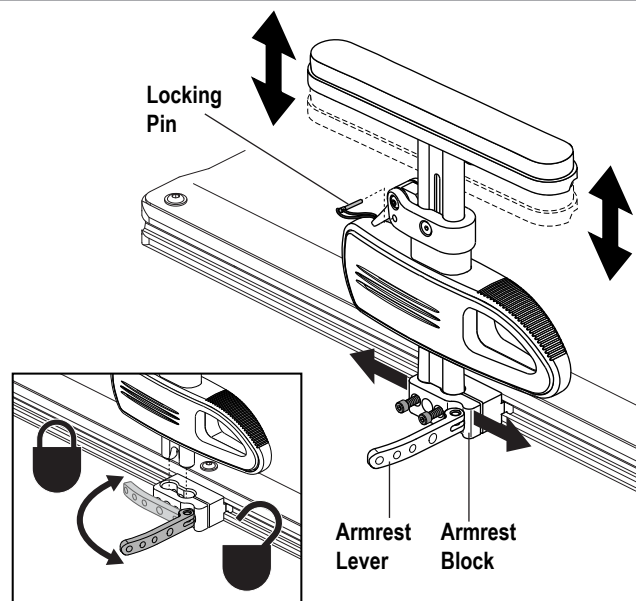

Figure 13. Pediatric Single Post Quick Height Adjustment Armrest Removal/Installation
1. Rotate the armrest lever forward. **See figure 13.**
1. Place the armrest assembly into the armrest block. **See figure 13.**
1. If present, remove the optional locking pin. **See figure 13.**